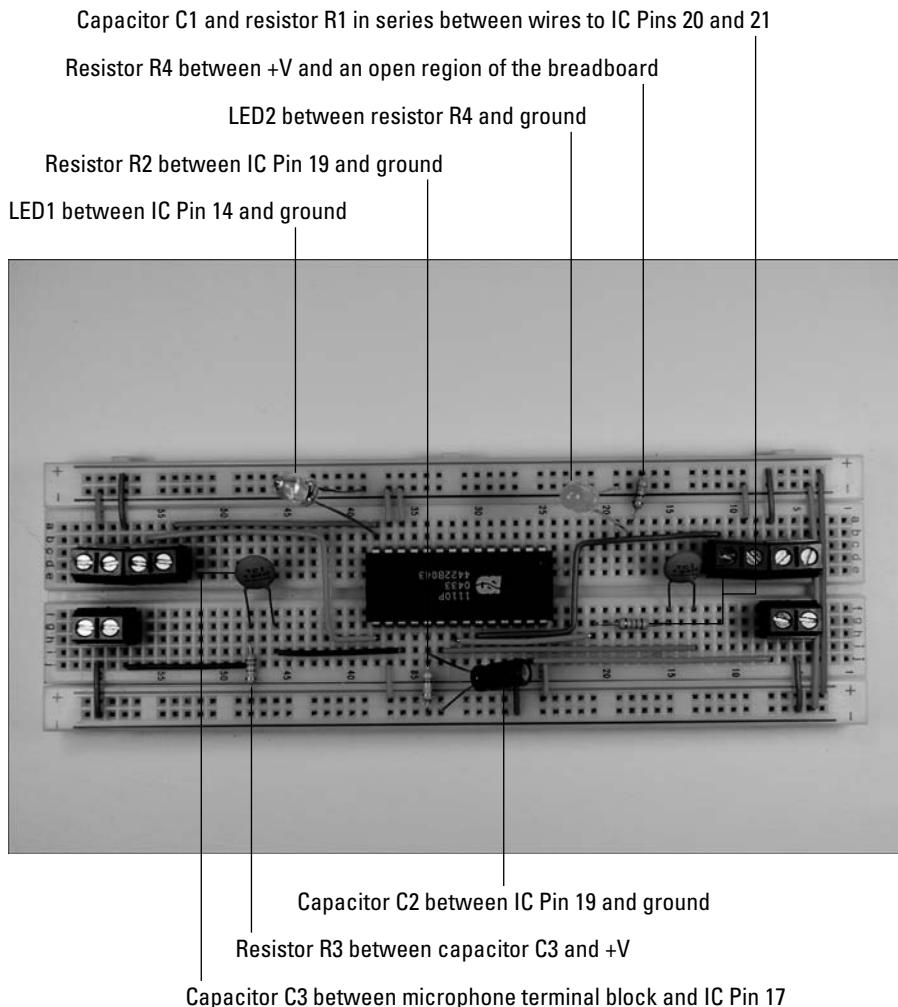

Figure 9-22:
5. Insert discrete components on the breadboard, as shown in Figure 9-22.